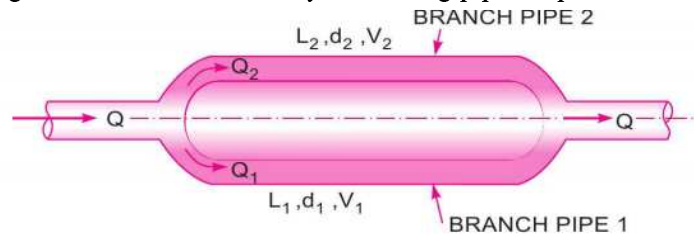

Fig. 11.17
Consider a main pipe which divides into two or more branches as shown in Fig. 11.17 and again join together downstream to form a single pipe, then the branch pipes are said to be connected in parallel. The discharge through the main is increased by connecting pipes in parallel.
The rate of flow in the main pipe is equal to the sum of rate of flow through branch pipes. Hence from Fig. 11.17, we have
**Problem 11.32** A main pipe divides into two parallel pipes which again forms one pipe as shown in Fig. 11.17. The length and diameter for the first parallel pipe are 2000 m and 1.0 m respectively, while the length and diameter of 2nd parallel pipe are 2000 m and 0.8 m. Find the rate of flow in each parallel pipe, if total flow in the main is  $3.0 \text{ m}^3/\text{s}$ . The co-efficient of friction for each parallel pipe is same and equal to .005.